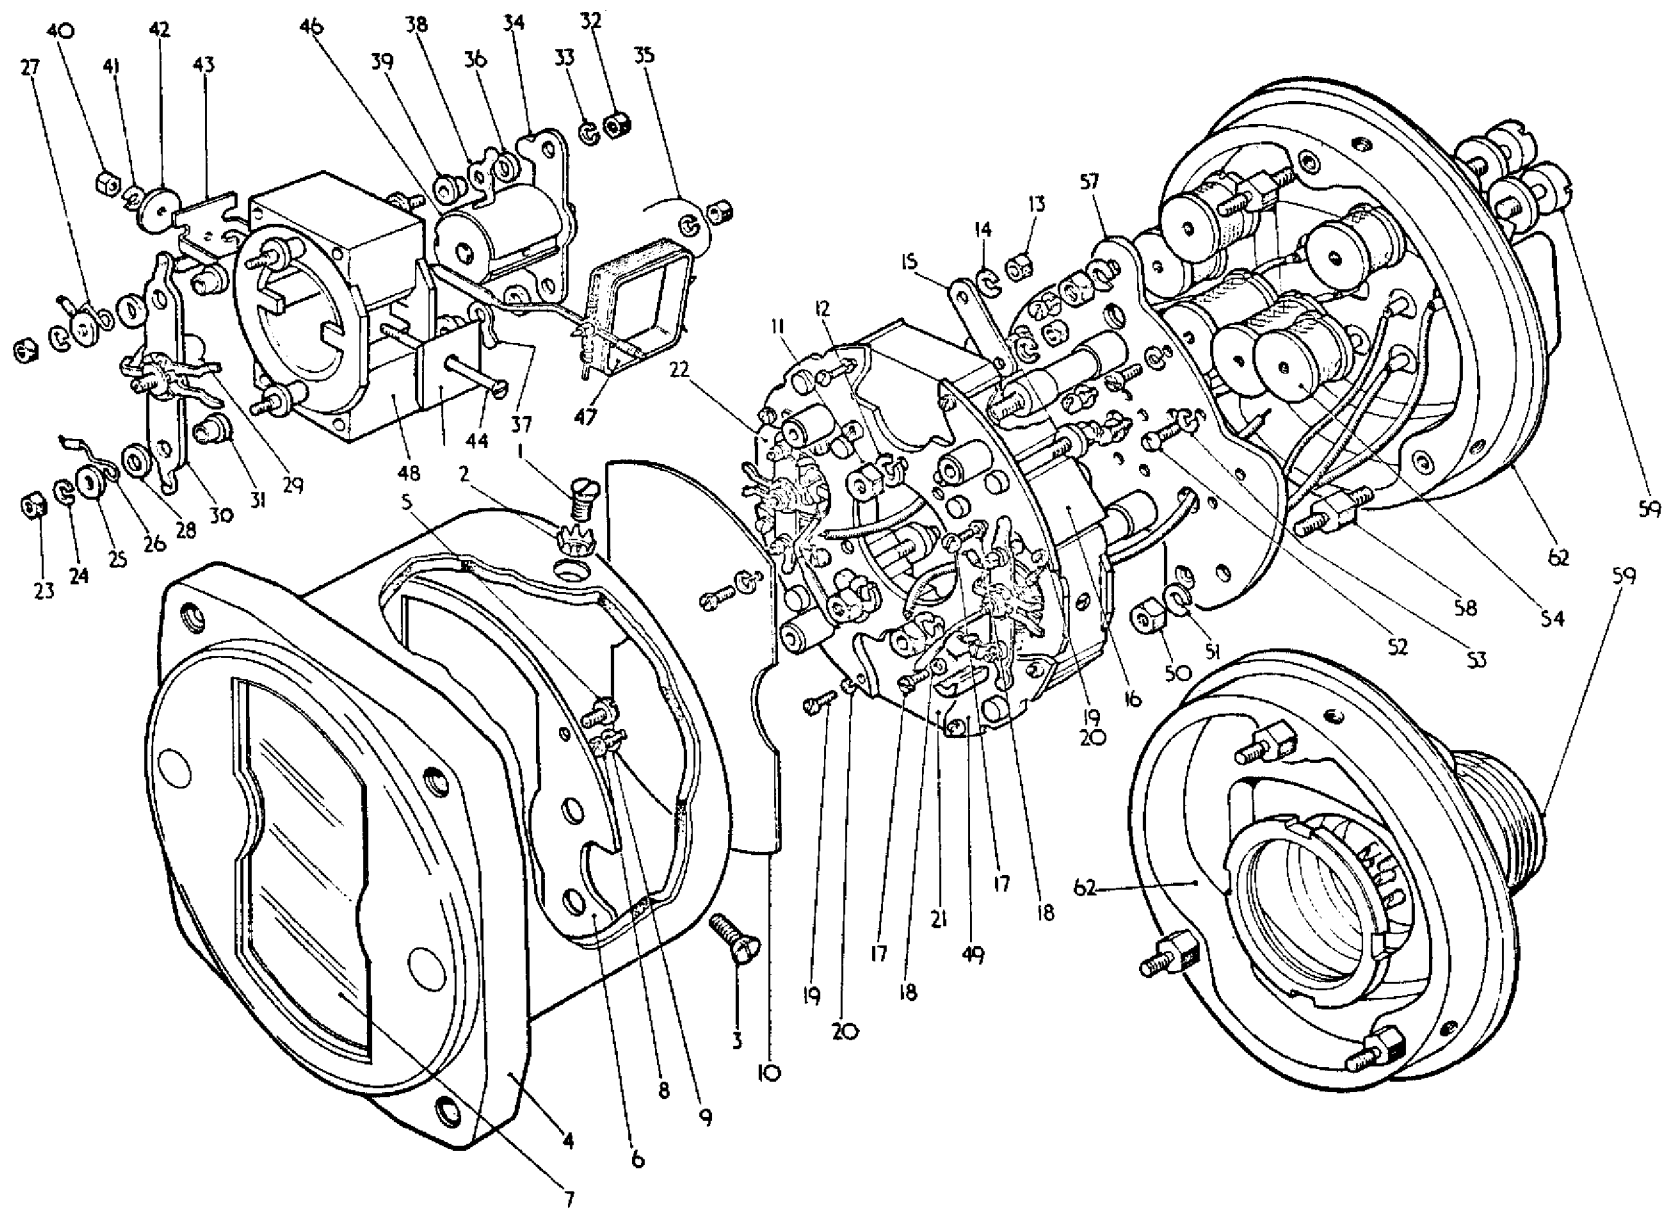

Fig. 1. Exploded view
B. Detail - Fig.1.
KEY TO FIG. 1.
A. General - Fig.1.
- (1) Break out the wax covering sealing screw (1) by means of a sharp pointed instrument; remove the screw together with sealing cup (2).
- (2) Remove screws 3 (2 off) and carefully withdraw cover (4).
- (3) Remove scale securing screws 8 (2 off) and washers 9 (2 off) and slide scale (10) out from under the pointers.
- (4) Unsolder the leads from the top bridge (30) and ligament terminals (37) and (38) of each movement, making a note of the connections as an aid to reassembly.
- (5) Unscrew and remove 6 B.A. nuts 11 (3 off) together with lockwashers 12 (3 off).
- (6) Lift off the movement and mounting plate assembly and place the base on one side until required for disassembly.
- (7) Unscrew 8 B.A. nuts 13 (8 off) and remove lockwashers 14 (8 off) and magnet clamps 15 (4 off).
- (8) Remove magnets 16 (4 off). The magnets will be held in position by magnetic attraction and may have to be carefully prised free.
B. Movement Complete (22) - Fig.1.